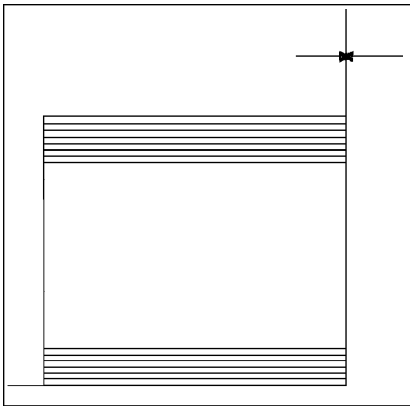
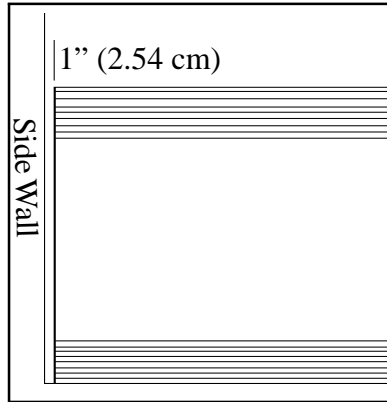

FIGURE 1
FIGURE 2
1. As you face the heater, the clearance to a side wall on the right side is 0" (Fig. 1), and the left side is 1" (Fig. 2).